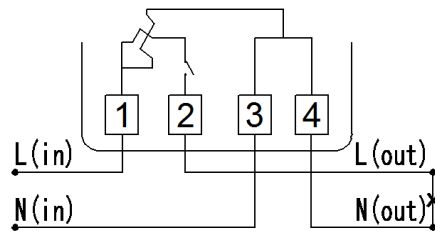
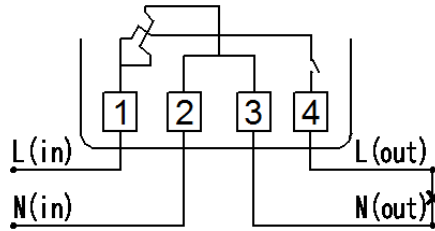

Figure 4 (LLNN) Main connection wires and auxiliary terminal
Figure 5 (LNNL) Main connection wires and auxiliary terminal
6.5 The following is the connection diagrams, figure 4 and figure 5.